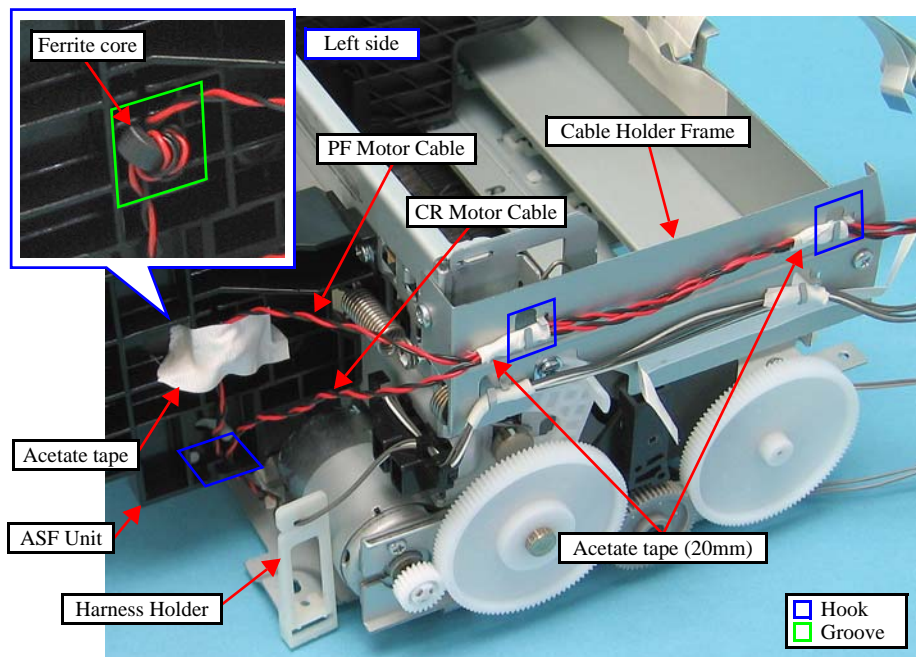

Figure 4-64. Removing the PF Motor (1)
- When installing the PF Motor, secure the cables and the ferrite core as the following. (See Figure 4-64.)
1. Release the PF Motor Cable and the CR Motor Cable from the hook of the ASF Unit on the left side. (See Figure 4-64.)